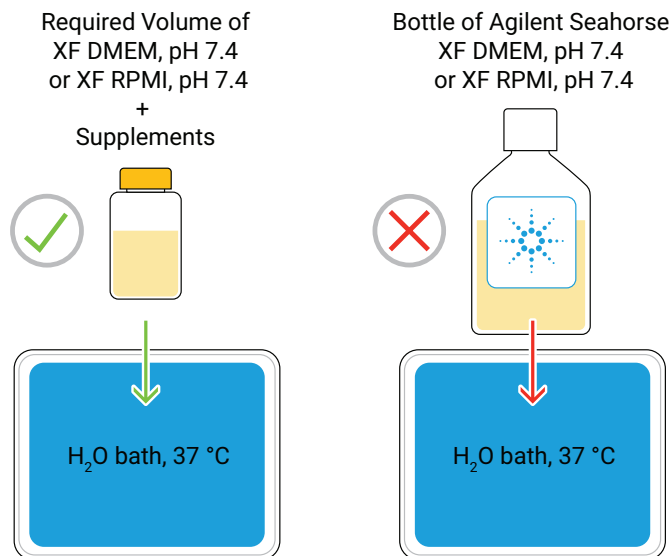

**Figure 3.** Cell wash workflow schematic – XF Real-Time ATP Rate Assay and XF Glycolytic Rate Assay.
- a. When performing the Agilent Seahorse XF Real-Time ATP Rate Assay and Agilent Seahorse XF Glycolytic Rate Assay, the second cell wash is delayed until cells have been incubated for 1 hour at 37 °C, non- $\text{CO}_2$ , and immediately prior to starting the experiment (Figure 3).